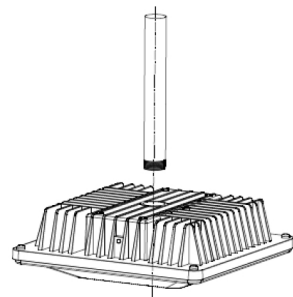

FIG. 3
4. Fixture is then pendant mounted by threading the customer supplied pendant through the 3/4" mounting hole on the top of the fixture (see FIG.3)